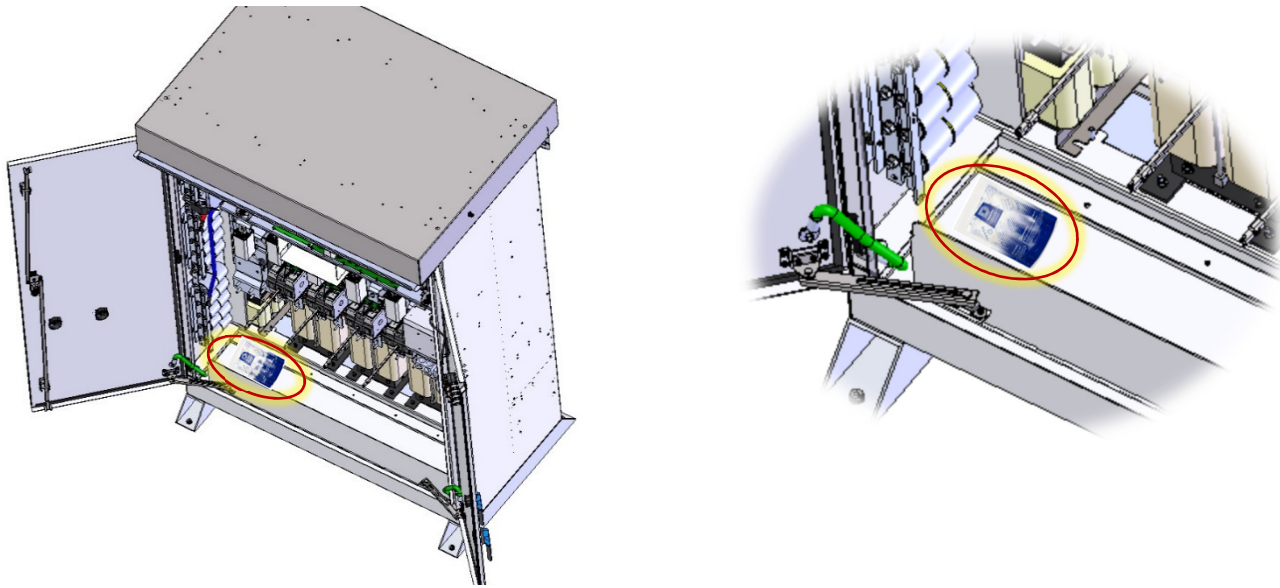

Fig. 5-20. RECOMMENDED DESICCANT PACKET LOCATION
- Extended periods of down-time can occur, for example, if turn-on/start-up is delayed more than one week following initial installation, or if the inverter is idle for more than a week during a service event. For any reason, if an inverter will be idle for longer than one week, install a desiccant pack inside the inverter. See Fig. 5-20 below for placement and orientation of the desiccant pack inside the inverter.